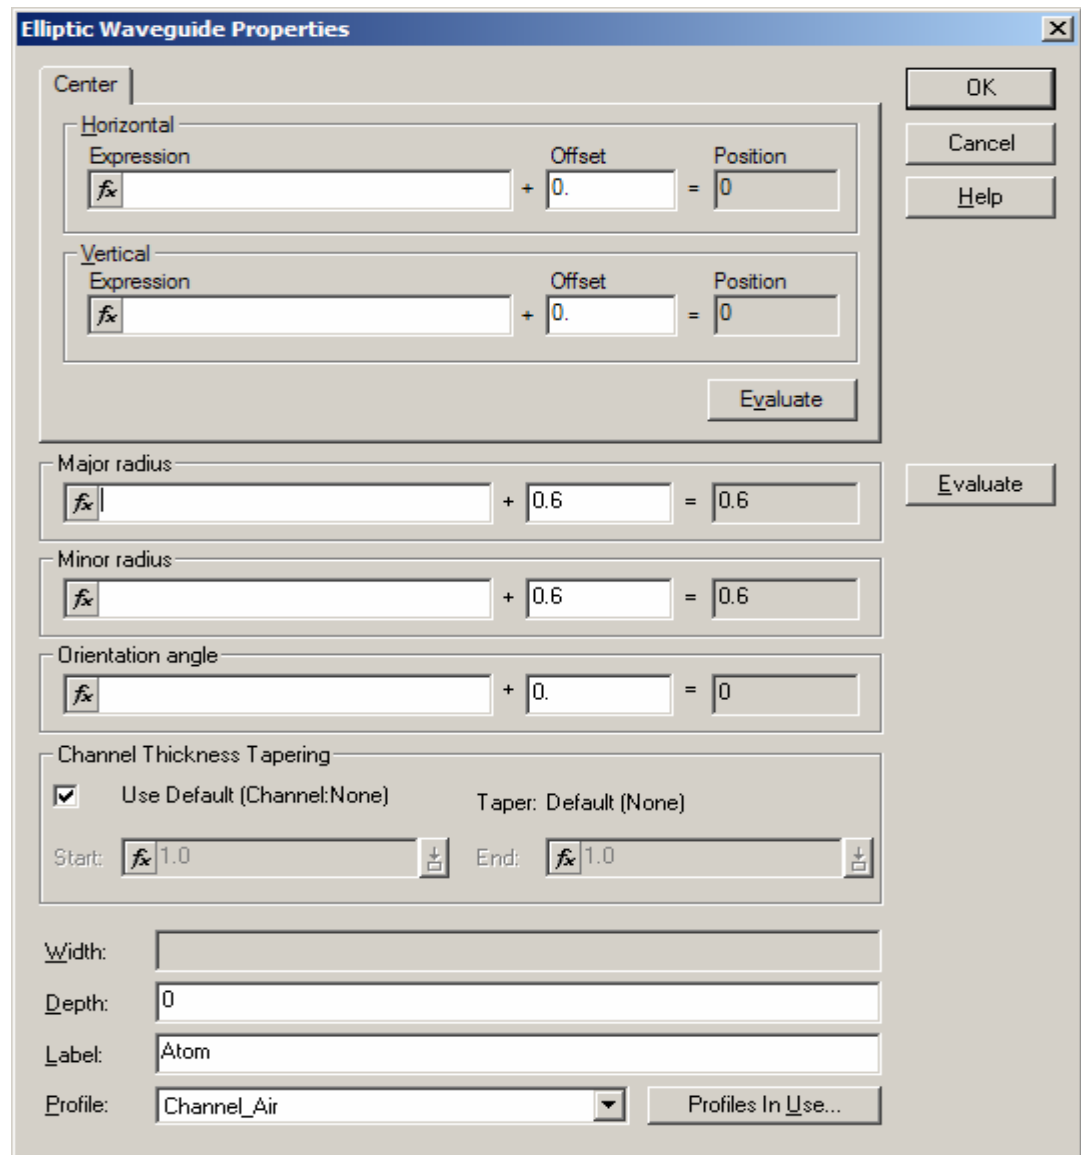

Figure 6 Elliptic Waveguide Properties dialog box
- 16 In **Atom Waveguide in Unit Cell, Add New**, select **Elliptic Waveguide** from the drop-down menu and click **New**. The **Elliptic Waveguide Properties dialog box** appears (see Figure 6). In **Elliptic Waveguide Properties dialog box** set following value